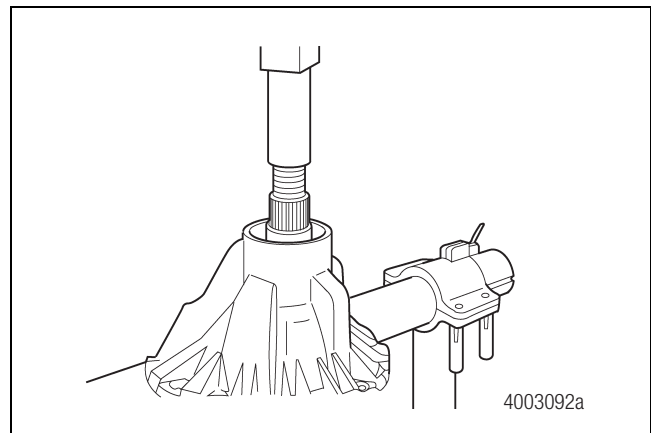

Figure 4.11
1. Press the pinion out of the carrier housing, which will remove the outer bearing cone from the pinion. Save the shim that was under the outer bearing cone. Figure 4.11.